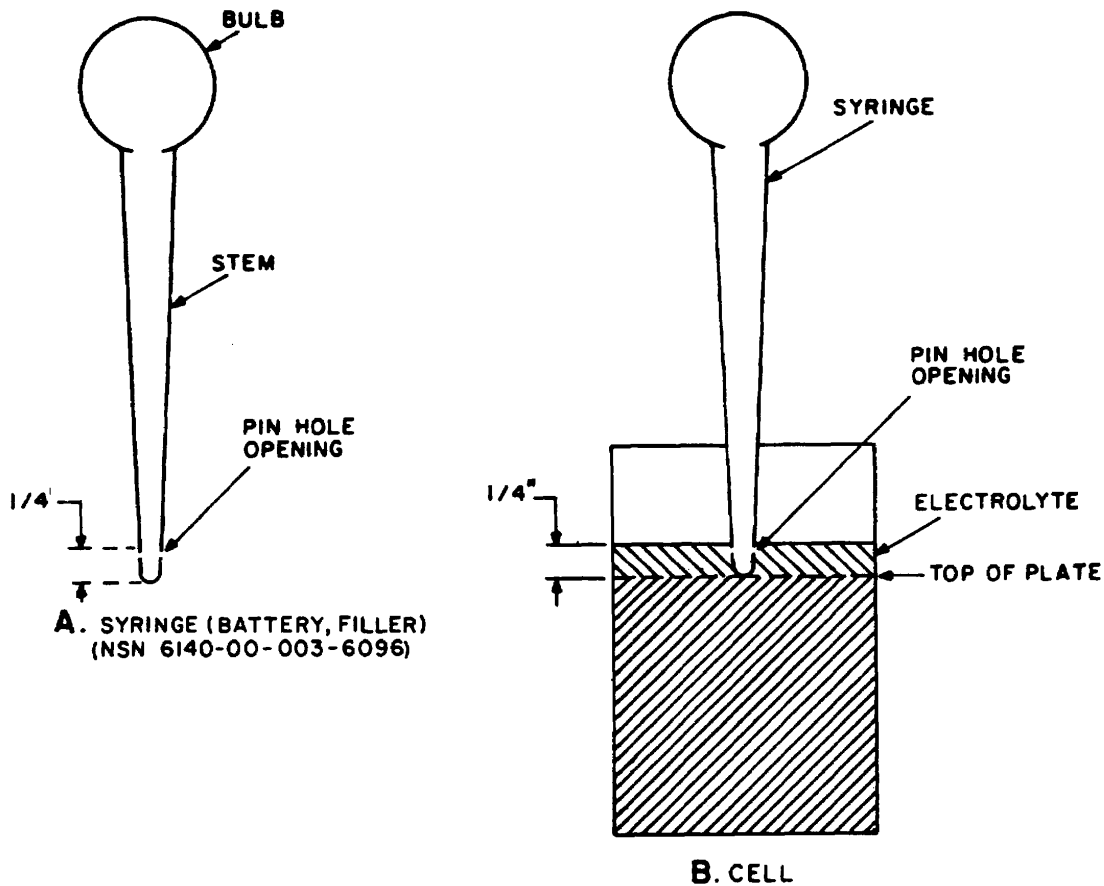

Figure 5-2. Electrolyte Level Adjustment.
(1) Use a sharp pin that has been heated with a flame to pierce the stem of the syringe one-fourth inch from the bottom of the stem (A, fig. 5-2).
(2) Let the pin remain in the stem for 2 or 3 minutes and then withdraw the pin slowly from the stem.
c Use the stem-pierced syringe, fined with distilled water (item 9, appx E), insert the syringe into the cell until it rests on the top of the plates (B, fig. 5-2). Slowly squeeze the contents of the bulb